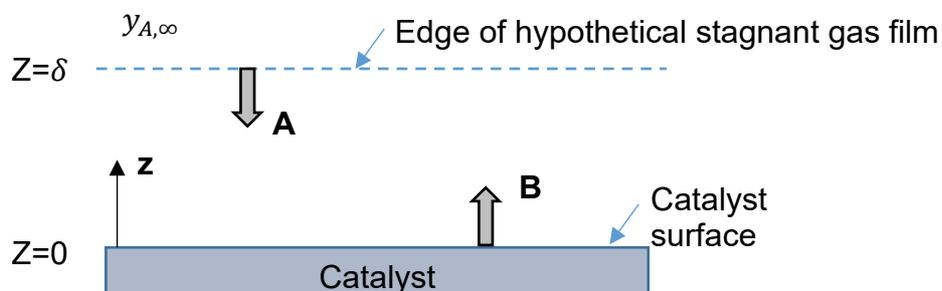

Figure Q4(a): Model of the diffusion problem near the surface of a catalyst
4. (a) Consider a catalyst surrounded by a stagnant gas film through which gas A has to diffuse to reach the catalyst surface, as shown in Figure Q4(a). At the catalyst surface, the reaction $A(g) \rightarrow 2B(g)$ occurs, and the product B then diffuses back out through the gas film to the main turbulent gas stream composed of A and B. The reaction at the catalyst-coated surface is first order with respect to A in the fluid at the interface, and the rate constant is k_1 . The effective gas film thickness is δ and the bulk concentration of A away from the catalyst surface is $y_{A,\infty}$. Starting from Fick's rate equation, show that the local rate of reaction per unit area of the catalytic surface (R_A) is given by the transcendental equation: